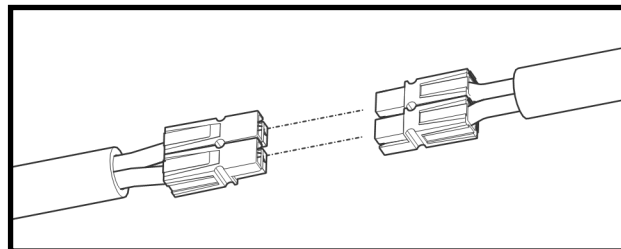

Fig. 4 (Connect Power Harness to Fan)
4. Per Fig. 4, connect the power harness to the fan harness and secure the power harness to the ROPS with cable ties.